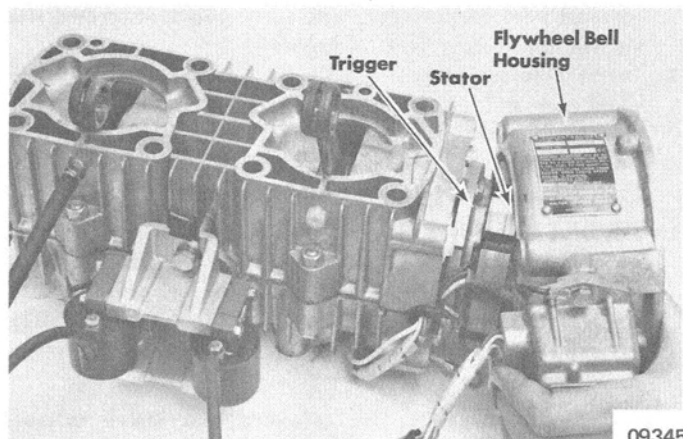

Figure 5. Installing Flywheel Bell Housing
17. Reinstall flywheel bell housing and switch box as an assembly. Secure housing to crankcase with washers and bolts. (Figure 5)